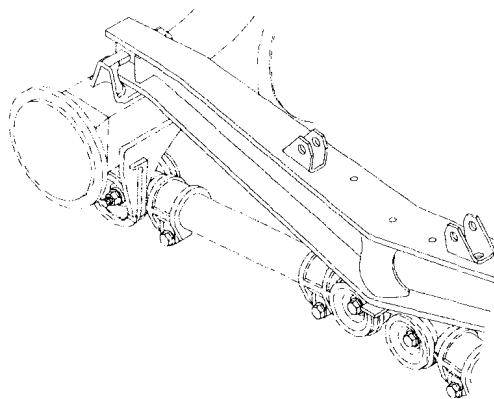

Figure 1
2. Identify the adjustable torque rods (See Fig. 1)